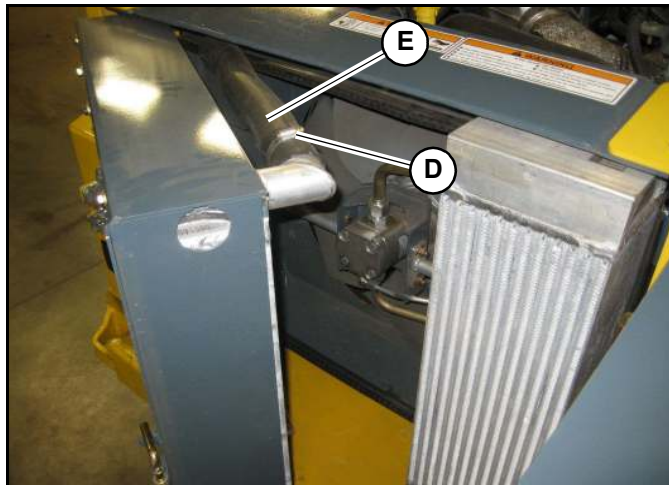

Fig. 21 – Upper Radiator Hose
7. Loosen the hose clamp (D, Fig. 21) that secures the upper radiator hose (E) to the radiator. Remove the upper radiator hose from the radiator. Close all openings.